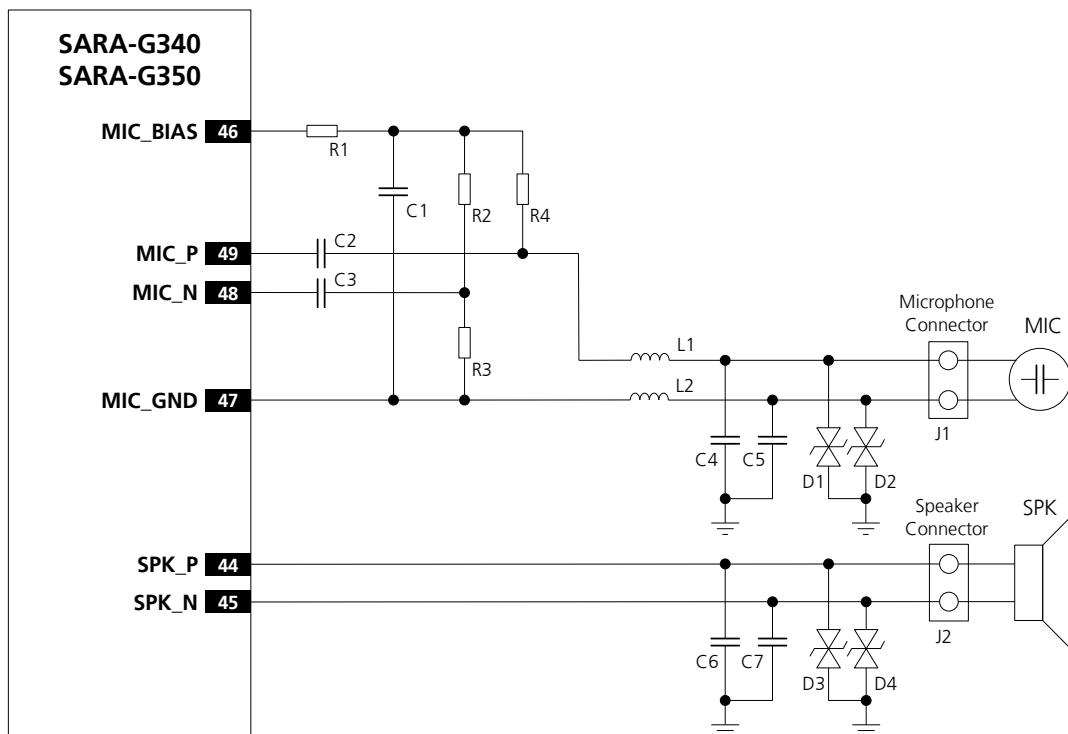

Figure 75: Analog audio interface headset and handset mode application circuit
Figure 75 shows an application circuit for the analog audio interface in headset and handset modes, connecting a  $2.2\text{ k}\Omega$  electret microphone and a  $16\text{ }\Omega$  receiver / speaker:
As in the example circuit in Figure 75, follow the general guidelines for the design of an analog audio circuit for both headset and handset modes:
- Provide a proper series capacitor at both **MIC\_P** and **MIC\_N** analog uplink inputs for DC blocking (as the  $C2$  and  $C3$   $100\text{ nF}$  Murata GRM155R71C104K capacitors in Figure 75). This provides a high-pass filter for the microphone DC bias with proper cut-off frequency according to the value of the resistors of the microphone supply circuit. Then connect the signal lines to the microphone.
- Mount an  $82\text{ nH}$  series inductor with a Self Resonance Frequency  $\sim 1\text{ GHz}$  (e.g. the Murata LQG15HS82NJ02) on each microphone line ( $L1$  and  $L2$  inductors in Figure 75).
- Mount a  $27\text{ pF}$  bypass capacitor (e.g. Murata GRM1555C1H270J) from each microphone line to solid ground plane ( $C4$  and  $C5$  capacitors in Figure 75).
- Mount a 27 pF bypass capacitor (e.g. Murata GRM1555C1H270J) from each speaker line to solid ground plane (C6 and C7 capacitors in Figure 75).
- Provide additional ESD protection (e.g. Bourns CG0402MLE-18G varistor) if the analog audio lines will be externally accessible on the application device, according to the EMC/ESD requirements of the custom application. Mount the protection close to an accessible point of the line (D1-D4 in Figure 75).